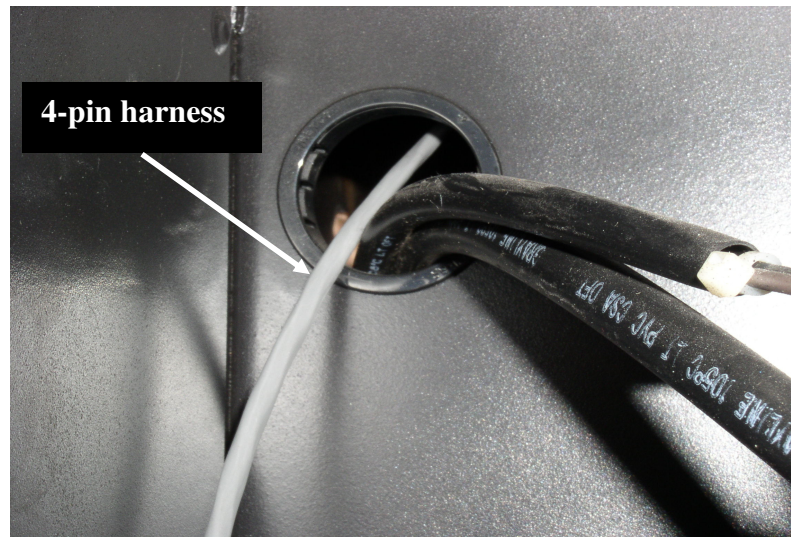

Figure 4 (Typical representation)
4) Slide 4-pin harness through hole and down between plates. (**Figure 4**)